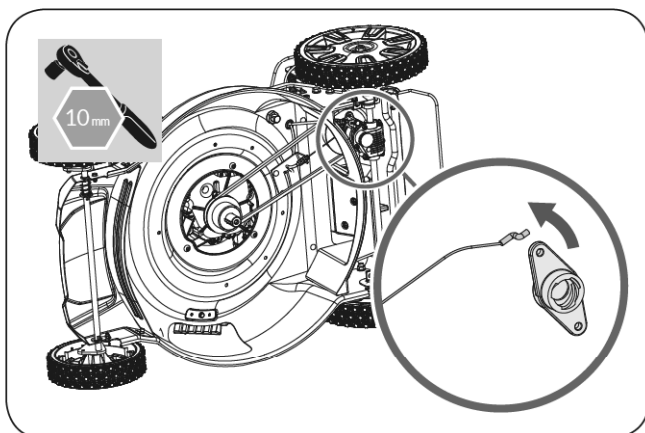

Figure 27
3. Disconnect the cable from the throttle cable end. (See **Figure 27**)